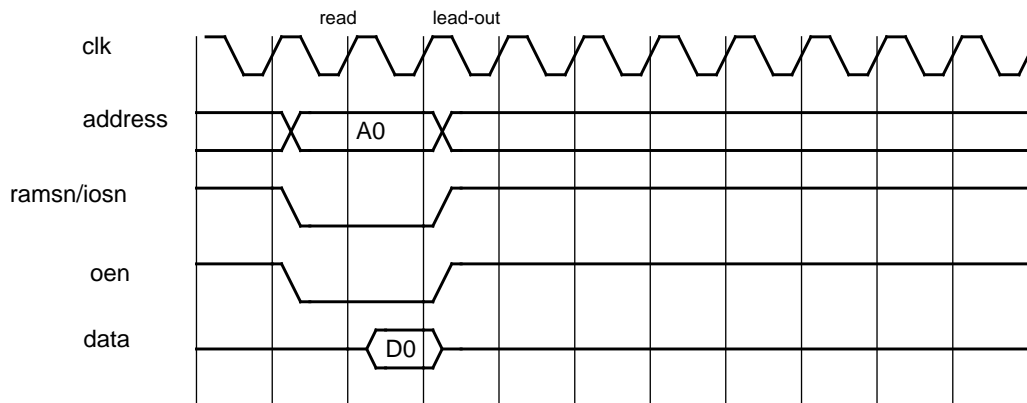
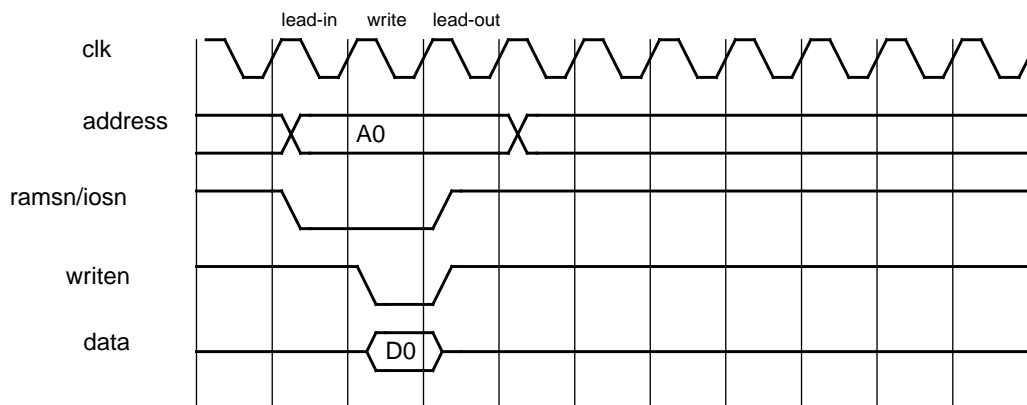

Figure 250. 32-bit PROM/I/O read cycle
Figure 251. 32-bit PROM/I/O write cycle
For the PROM and I/O operations, a number of waitstates can be inserted to increase the read and write cycle. The number of waitstates can be configured separately for the I/O and PROM address ranges, through a programmable register mapped into the APB address space. After a reset the waitstates for PROM area is set to its maximum (15). Figure 250 and figure 251 show timing diagrams for the PROM read and write accesses.
Read accesses to 32-bit PROM and I/O has the same timing, see figure 250
The write access for 32-bit PROM and I/O can be seen in figure 251